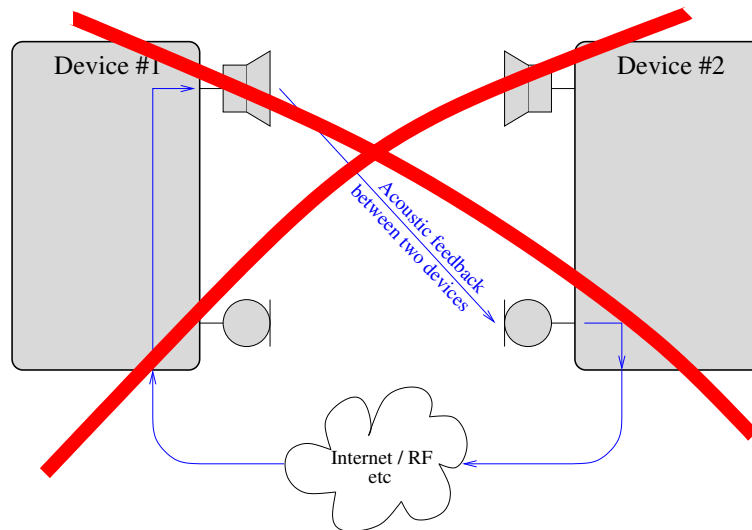

Figure 3: AEC does not combat audio feedback between devices close to each other.
- Does not perform feedback elimination between two devices that are close to each other, as shown in Figure 3 on Page 9.
AEC does not perform feedback elimination between two devices that are close to each other as shown in Figure 3.